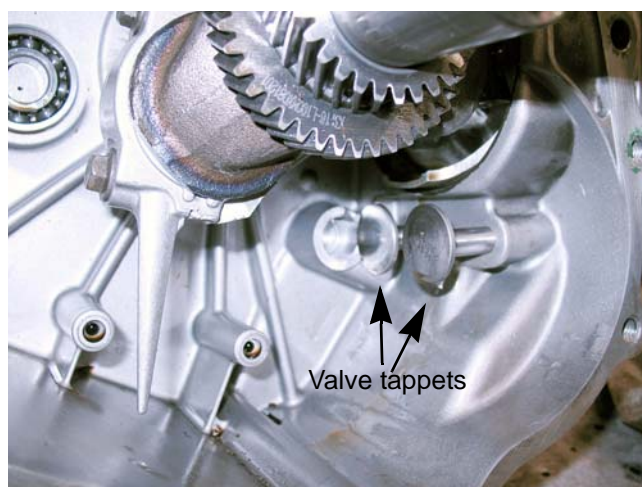

Figure 10.3
14. Remove the valve tappets. See Figure 10.3.